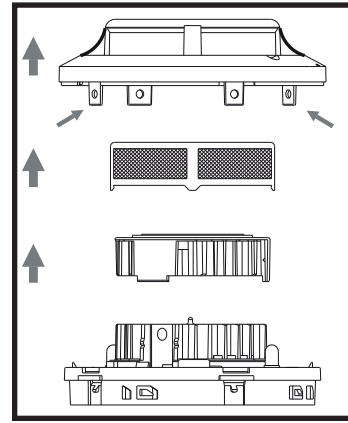

Figure 1: Cleaning the Sensor
- Gently release each of the four cover removal tabs that hold the cover in place (see figure 1) and remove the cover.